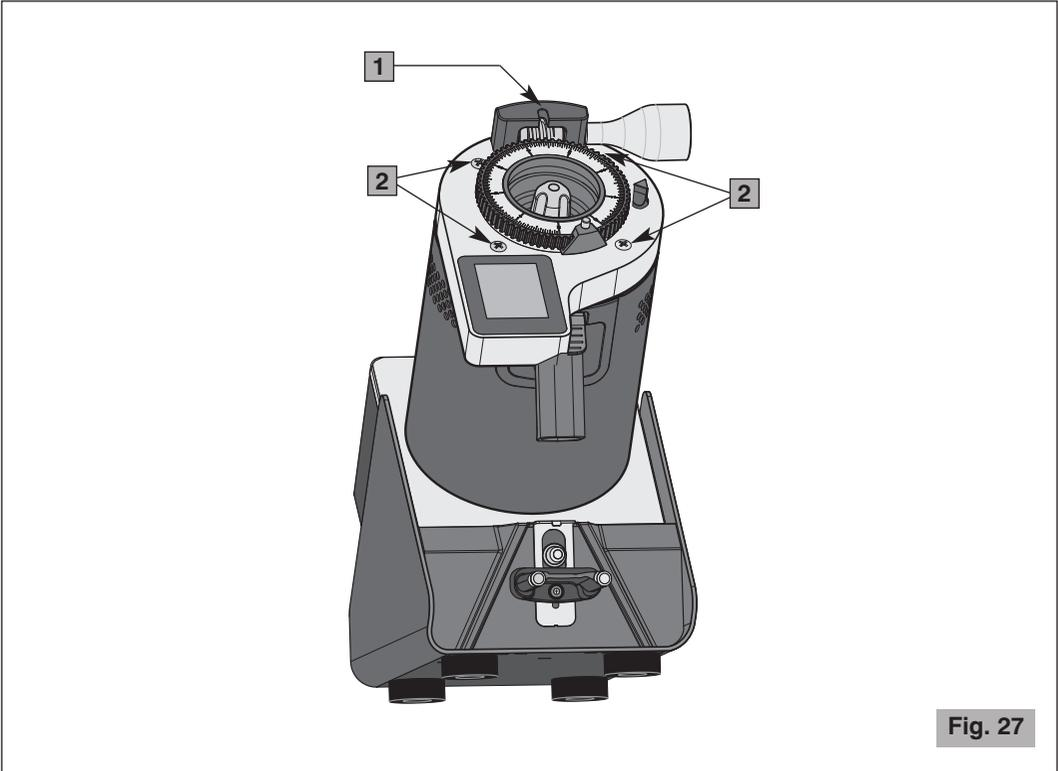

Fig. 27
Once the hopper has been removed, it can be washed with lukewarm water and neutral soap, then rinse it and dry well. To reassemble it, hook the tooth in the rear part of the hopper in its seat (1, Fig. 27).
- To clean the head remove the four screws (2, Fig. 27) that secure it.